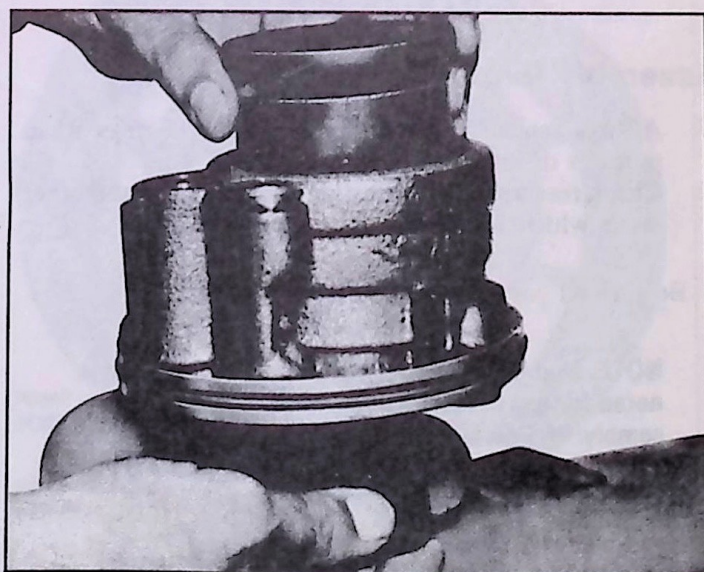

Fig. 19—Impeller Unit Removal
9. With the pump still in a vise, remove the shaft woodruff key and tap end of shaft gently with a soft hammer until the shaft, pressure plate, pump ring, rotor assembly and thrust plate can be removed as a unit (fig. 19).